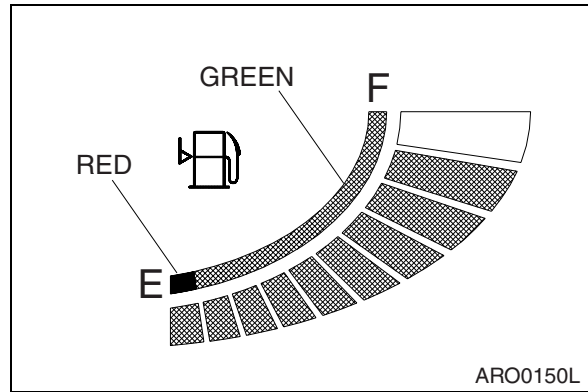

Figure 2
1. Look at fuel level display (Figure 2) on instrument panel in operator's cab to see what it displays. The display is divided into ten separated segments, each representing 10 percent of total fuel supply. Also look at level gauge on side of tank to estimate volume of fuel left in tank.